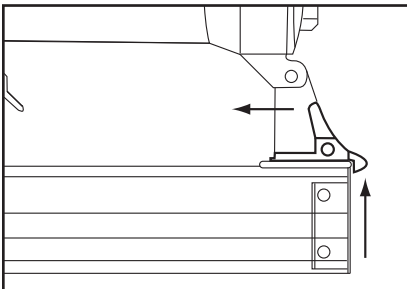

Figure 3. Releasing magazine latch.
2. Grip the nailer firmly, and depress the magazine latch, as shown in **Figure 3**.